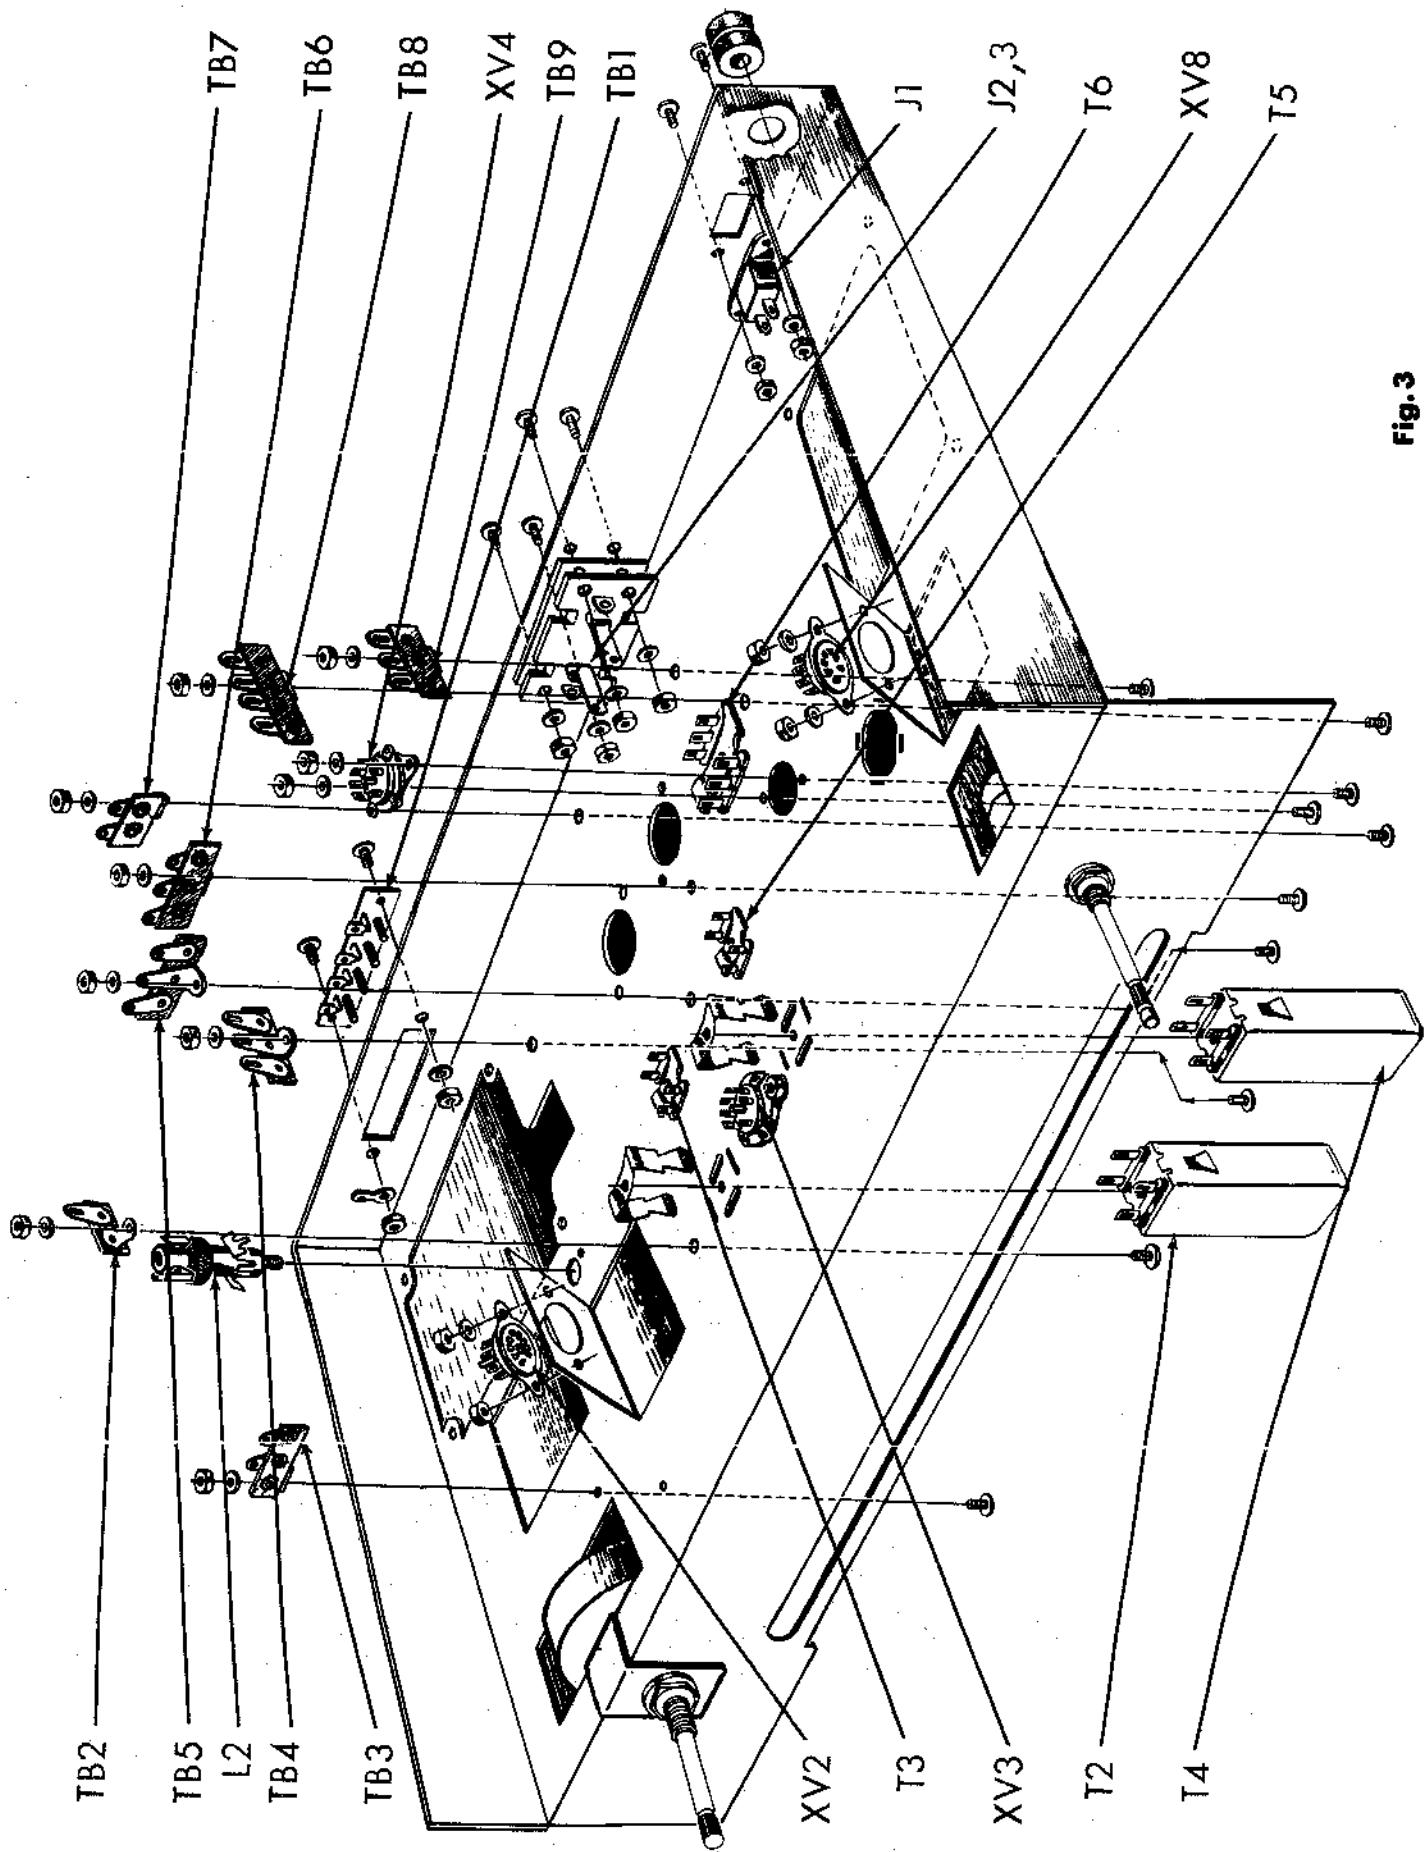

Fig. 3
- (1) 1. Fig. 3. Mount the convenience outlet J1, in the rear apron of the chassis. Use two #6-32 x 1/4 screws, two #6 lockwashers and two #6-32 hex nuts.
- (1) 2. Fig. 3. In the hole next to the convenience outlet, mount a 3/8" rubber grommet.
- (1) 3. Fig. 3. Mount dual jack J2, 3, as shown. Use four #4-40 x 3/8 screws, four #4 lockwashers and four #4-40 hex nuts. Use a bakelite insulator between the chassis and the jack.
- (1) 4. Fig. 3. On four screw antenna terminal board TB1, bend up all lugs as shown in the drawing. From the outside of the chassis, mount the board using two #6-32 x 1/4 screws and two #6-32 hex nuts. Under one hex nut, mount a #6 ground lug and under the second hex nut mount a #6 lockwasher. Check that the lugs are bent parallel to the rear apron of the chassis and are about 3/16" away from the rear apron so that they will not short against the chassis or the component to be mounted near the lugs.
- (1) 5. Fig. 3. Mount the seven pin miniature socket, without the center shield lug, XV8, as shown. Use two #4-40 screws, two #4 lockwashers and two #4-40 hex nuts. Note orientation in figure 5.
- (1) 6. Fig. 3. Mount the seven pin miniature sockets, with the center shield lugs, XV3 and XV4, as shown. Use two #4-40 screws, two #4 lockwashers and two #4-40 hex nuts on each. Note orientation in figure 5.
- (1) 7. Fig. 3. Mount the ten nine pin miniature socket, XV2, as shown. Use two #4-40 screws, two #4 lockwashers and two #4-40 hex nuts. Note orientation in figure 5.
- (1) 8. Fig. 3. Mount the one post right terminal strip TB2, the two post left terminal strip TB3, the four-post with ground terminal strip TB4, TB5, TB6 and TB9, the one post right with ground terminal strip TB7, and the three post two right with ground terminal strip TB8, as shown. Use one #6-32 screw, one #6 lockwasher and one #6-32 hex nut on each. See Fig. 5 for the orientation of the terminal strips.
- (1) 9. Fig. 3. Mount the rectangular cans, T2, T3, T4, T5 and T6, as shown. Use the special brass clip provided to hold each can. Each can may be identified by the stock number stamped on the can. The stock number for T2 is 34613, for T3 is 34603, for T4 is 34614, for T5 is 34605 and for T6 is 34602. T2 through T5 are IF cans and T6 is the ratio detector can. Orient each can so that the color dot, identifying one of the terminals, is as shown in figure 5. Push the plastic at the bottom of the can (in which the solder lugs are mounted) through the longer two of the four elongated slots (which surround the round hole). When this is done, the can stands on the top of the chassis. From the bottom of the chassis, insert the brass spring clip through the two remaining elongated slots, by spreading the clip apart slightly. Next, push one side of the clip up far enough so that it will catch in the "Y" shaped hole at the side of the can. Hold the can firmly against the top of the chassis with one hand. With the index finger of the other hand, working from the bottom of the chassis, push the clip up until it clicks into the remaining "Y" shaped hole in the other side of the can. Repeat this for each of the five cans.
- (1) 10. Fig. 3. Insert the oscillator coil, L2, into the hole near the variable capacitor and FM Front End Assembly, from the bottom of the chassis. Note the orientation in figure 5. The small locating pin on the mounting clip should fit into the small hole adjacent to the mounting hole. Push down toward the chassis until two soft clicks are heard and the coil form is held firmly to the chassis by the spring action of the two legs.